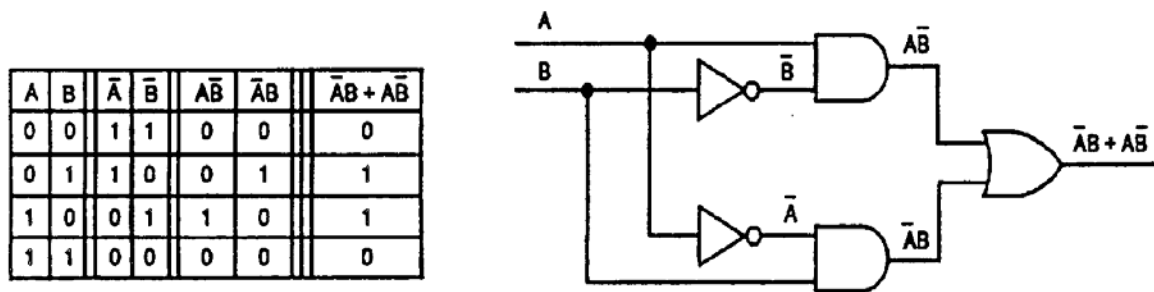

Figure Q-21. XOR Gate
(2) The gates required to perform these expressions can now be established. Figure Q-21 shows the XOR construction. This configuration satisfies the definition of an XOR gate.